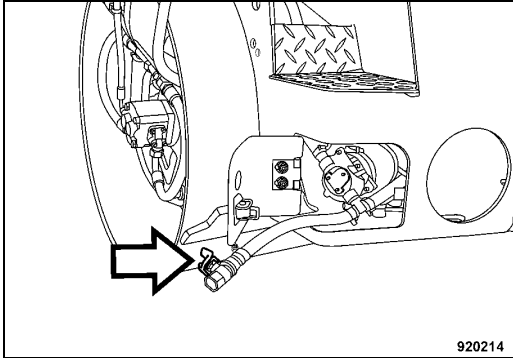

Fig. 180
- Take out the drain hose (Fig. 180).